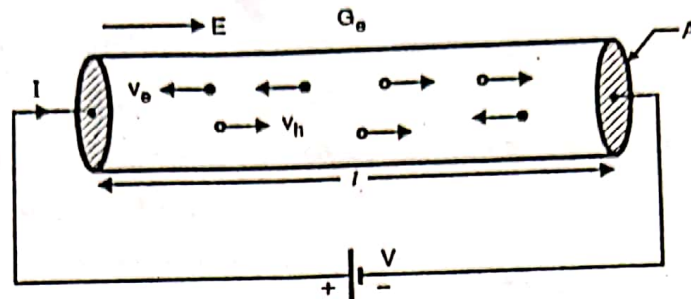

Fig. 2.17.1 : Semiconductor
- Consider a semiconductor of length l and cross-section A as shown in Fig. 2.17.1. Let a voltage V be applied across the semiconductor.